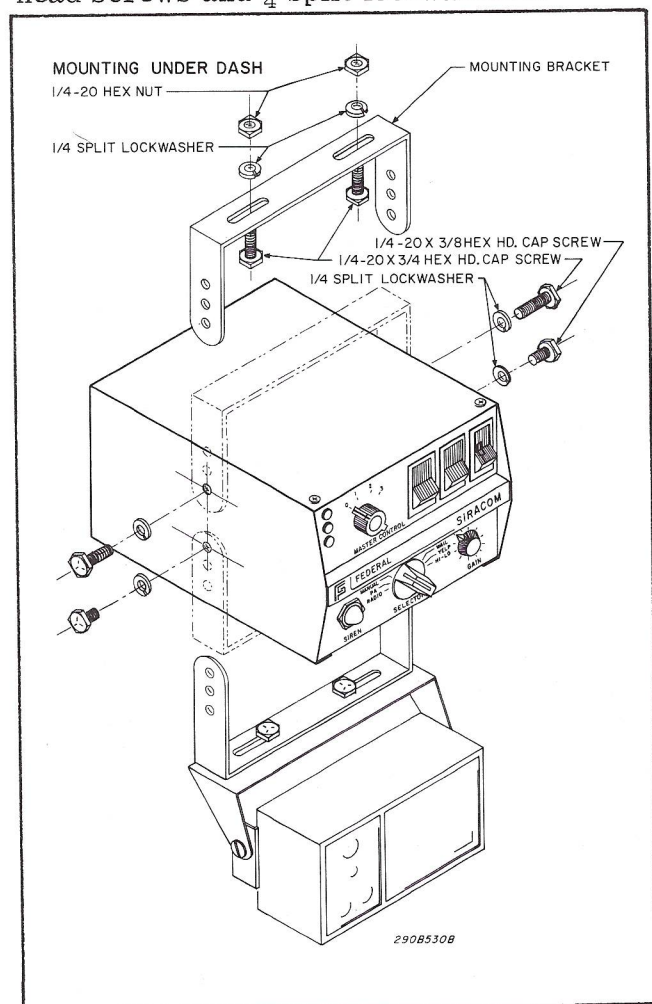

Figure 3-1. Installation of PA-1000 Under Dash.
The unit should be mounted in a position that is both comfortable and convenient to the operator. Keep visibility and accessibility of controls in mind. To install the unit under the dash, determine the mounting location and proceed as follows (see figure 3-1):
C. Secure the mounting bracket to the dash with (2 each)  $\frac{1}{4}$ -20 x  $\frac{3}{4}$  hex. head screws,  $\frac{1}{4}$  split lockwashers and  $\frac{1}{4}$  - 20 hex. nuts as shown in figure 3-1.